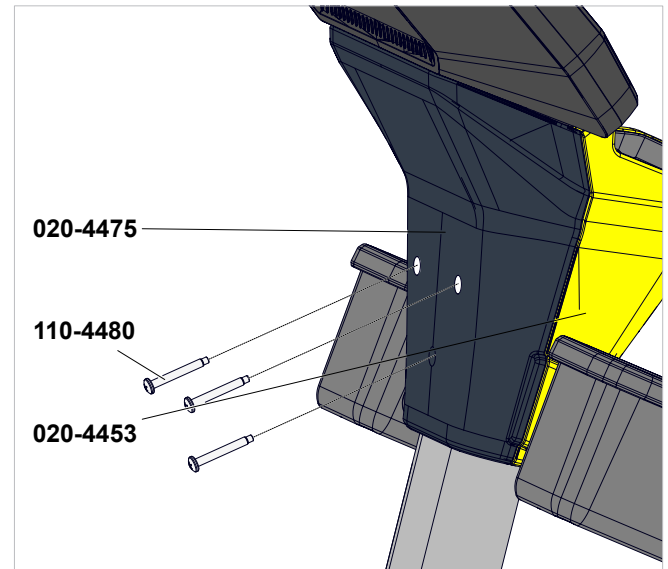

Fig. 3
1. Use a 4mm allen key to remove the M5 x 35mm socket head screws 110-4480 securing the machine shroud to the mast, then remove the machine shroud. (See Fig. 3, shroud PN will vary by unit, see base manual)
9. Reinstall machine shroud on unit. See base manual for hardware and shroud part numbers. See Fig. 3 for example.